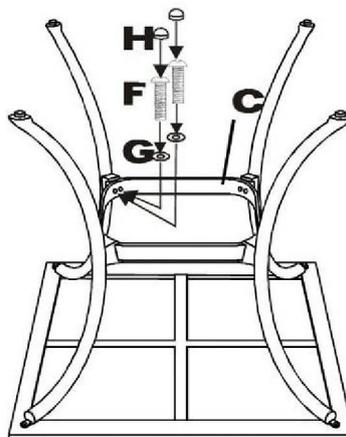

Figure 2
3. Attach table leg (D) to the leg connector bracket (C) using long bolt (F) and washer (G) (each leg has two bolts). (Figure2)